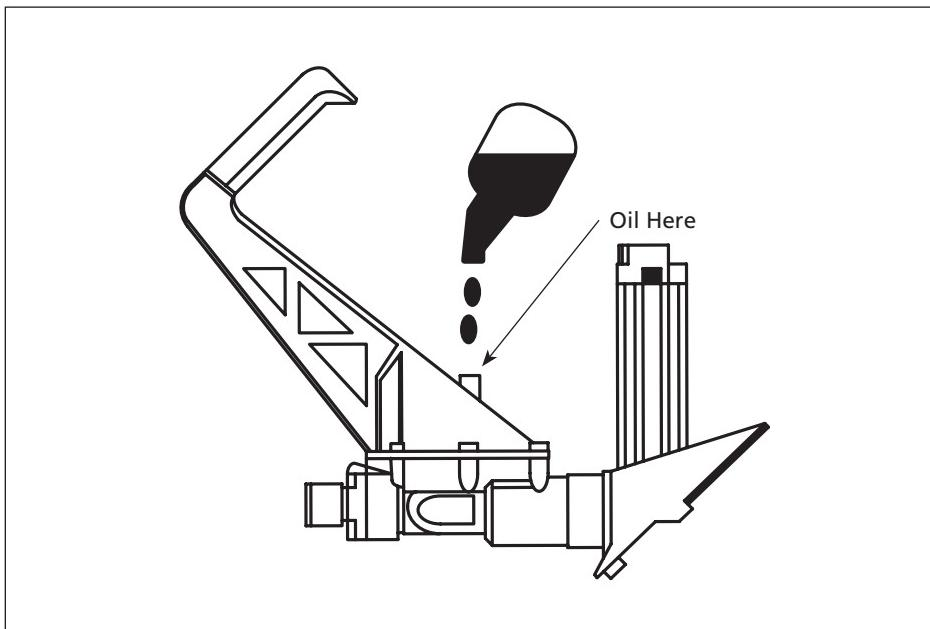

Figure 12 - Tip nailer to add oil
2. Turn the nailer so the air inlet is facing up. Place 4-5 drops of 30 W non-detergent oil into air inlet (*see Figure 12*). Do **NOT** use detergent oils, oil additives, or air tool oils which contain solvents. This will damage the nailer's internal components.